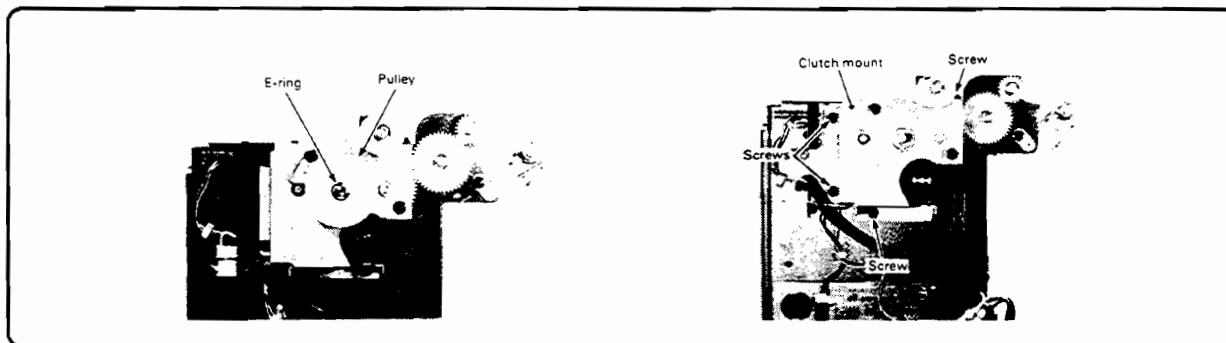

Figure 6-144. Clutch Pulley and Mount
2. Remove the e-ring and detach the pulley (Figure 6-144).
3. Remove the four (or five) screws and take out the clutch mount (Figure 6-144).